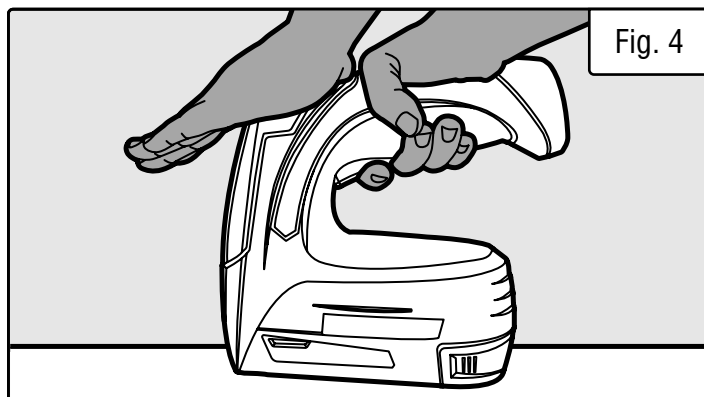
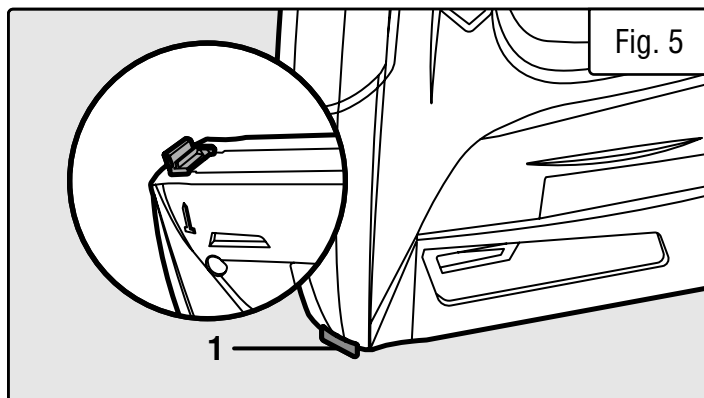

Fig. 4
Fig. 5
3. Holding the tool with both hands, place the nose of the tool onto your workpiece where you would like to fire the fastener as shown in Fig. 4. Carefully press down on the tool so that the contact safety (Fig. 5 - 1) depresses.